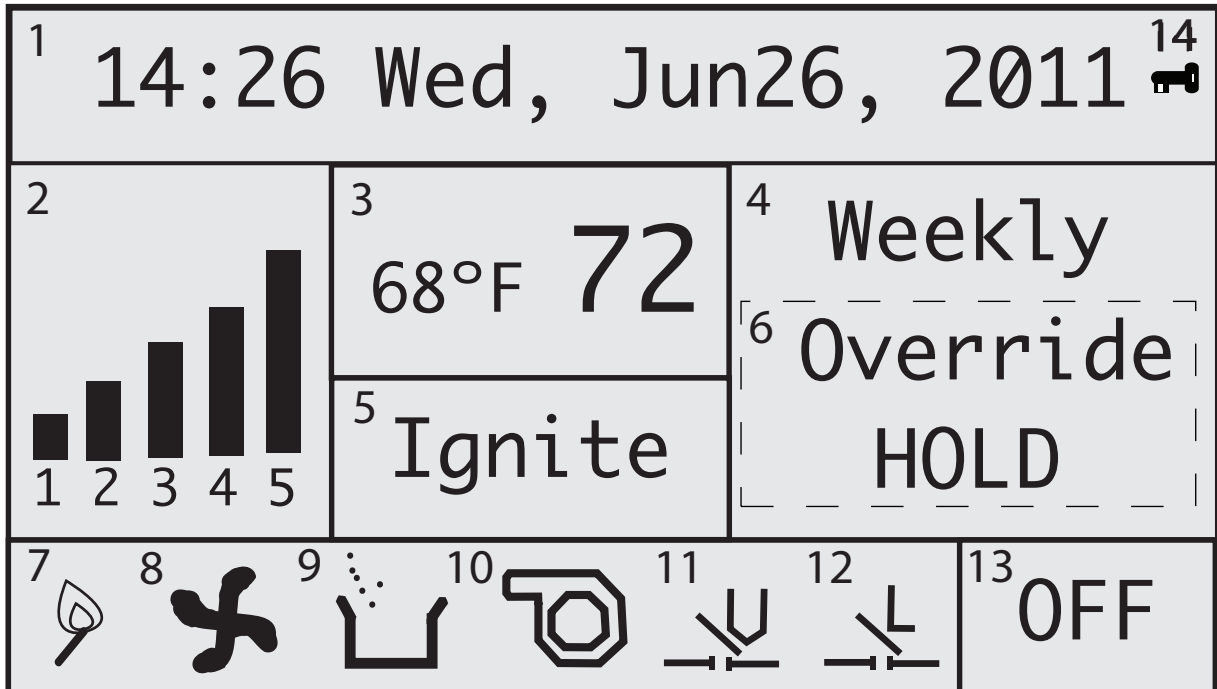

Figure 19: Main Operation Controller Screen Display
When the stove turns on, the ignition indicator and the combustion blower indicator will appear on the screen (images 7 and 8 in Figure 19 on page 23). **"Ignite"** will also appear in the work stage box on the screen. After approximately four seconds, the vacuum switch indicator will appear. Also note that the hopper lid open indicator (limit indicator) will appear anytime the stove's hopper lid is properly shut and sealed.
- With a schedule set, make sure that the main display screen on the controller reads **"WEEKLY"** (for operating in the Weekly Mode) and that the unit is turned on. The schedule will not take effect unless the unit is turned on in the Weekly Mode. (See button 13 on Figure 19.)